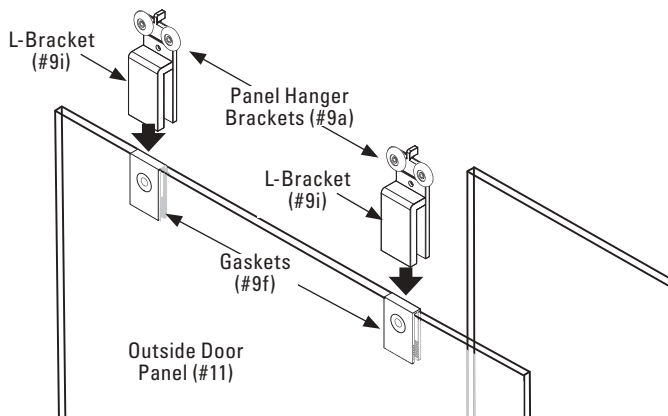

Figure 7
F. Loosen the screws on two of the T-Brackets so you can fit them over the top of the Gaskets on the Door Panel with the holes aligned (See **Figure 7**).